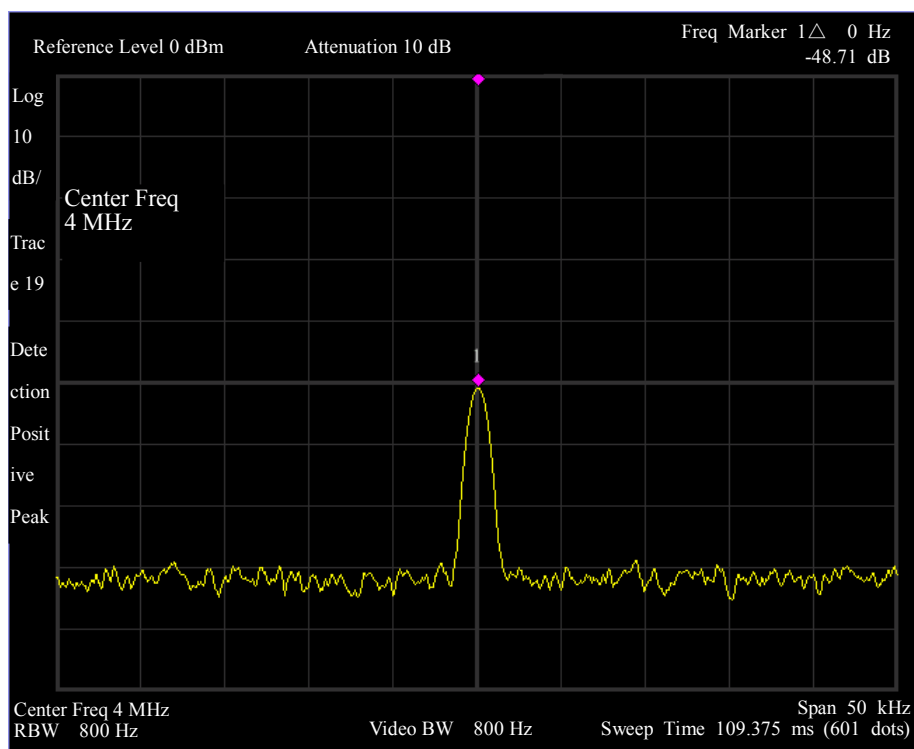

Fig. 3-20 2MHz Second Harmonic
5. Measure the second harmonic as shown in Fig. 3-20.